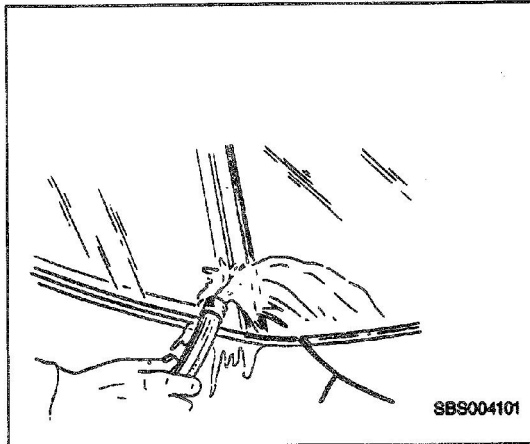

Figure 4—Water Hose Test of Windshield Pillar
Figures 4 and 5
2. Use an unrestricted water flow (no nozzle) (Figures 4 and 5).